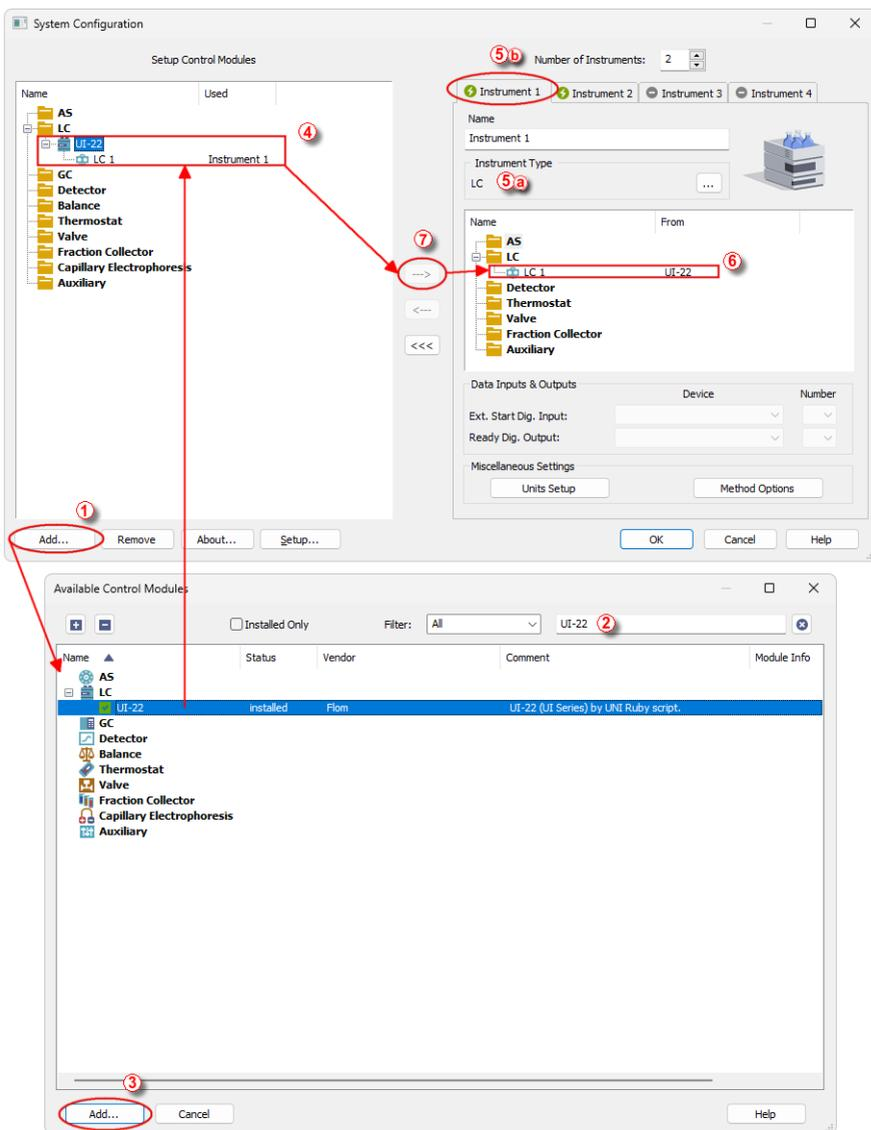

Fig. 3: How to Add Flom pumps module
- Press the **Add** button (ⓘ on **Fig. 3** on pg. 4.) to invoke the **Available Control Modules** dialog.
- You can specify the search filter ② to simplify the finding of the driver.
- Select the correct item and press the *Add* (③ on **Fig. 3** on pg. 4.) button. Each device with already created UNI profile should have its own item named accordingly in the *Available Control Modules* dialog.